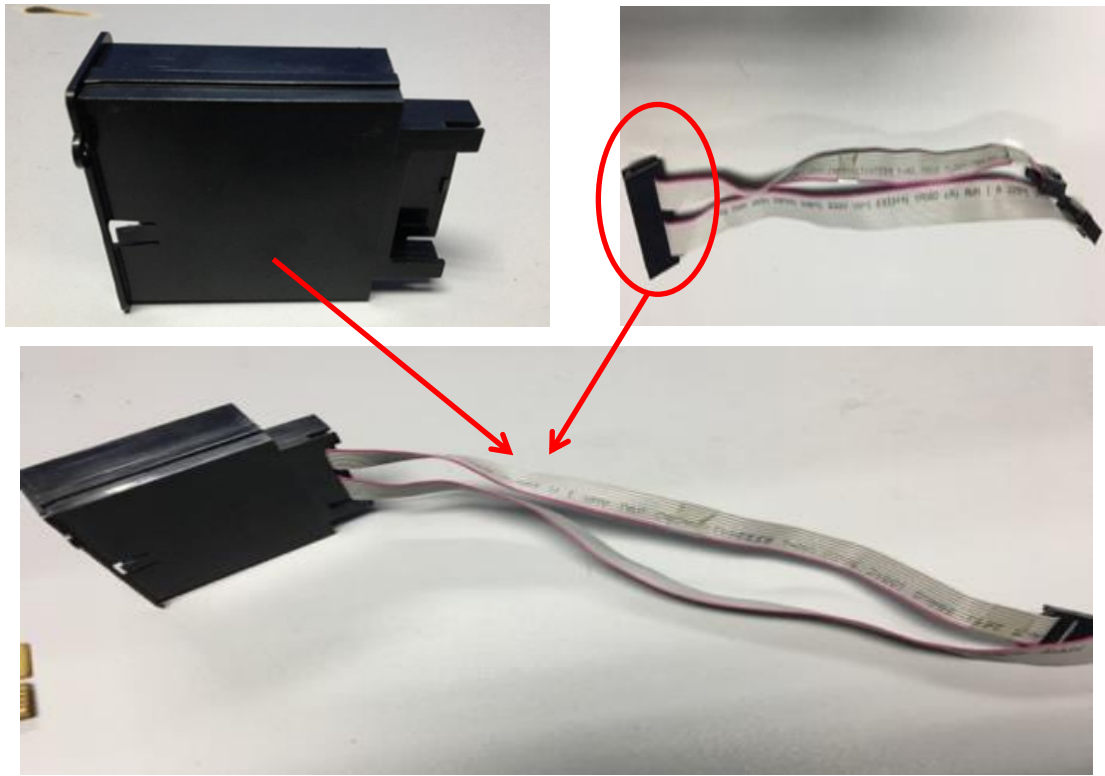

Figure 3 Install signal cable
3. Connect the 26 pins terminal of signal cable with slot, as is shown in figure 3.